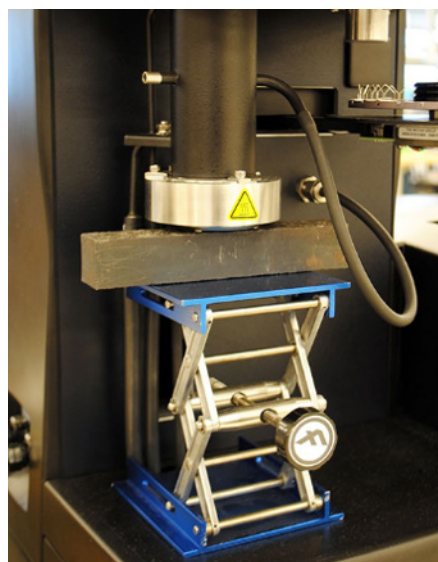

Figure 1. External bar magnet placement underneath TGA standard furnace
3. Load the TGA pan and close the furnace. Start the calibration test and raise a bar magnet underneath the furnace (see figure 1) until a weight gain is detected. Secure the magnet in this position for the duration of the experiment.